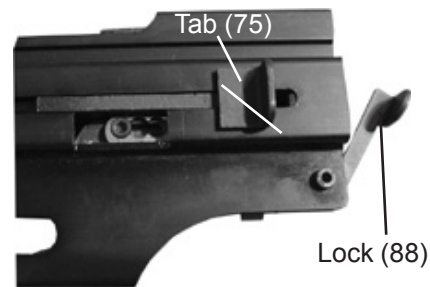

Figure 2
1. Slide the Tab (75) back and the Lock (88) will hold it in place. See **Figure 2**, above.